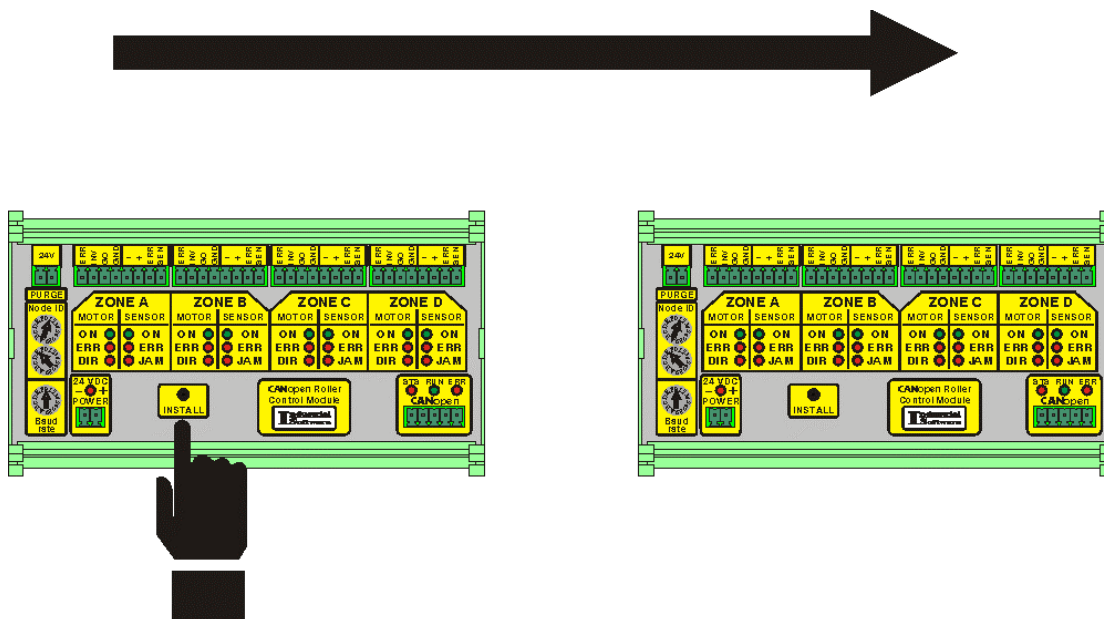

Fig. 5.13
- Go to the conveyor and press the **Install** Button of the appropriate module - Fig. 5.13.